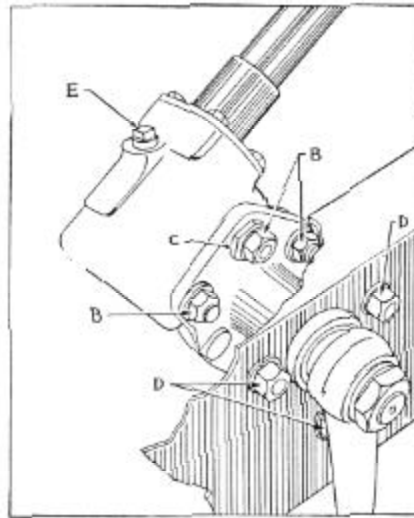

Figure 13
The mesh between the worm and sector of the gear is adjusted by moving the housing cover. To adjust, loosen the four (one not shown) housing cover stud nuts (B), Figure 13, one-quarter turn. With front wheels jacked up and in the straight
The housing should be filled at all times with a good grade of S.A.E. 160 gear oil in summer and S.A.E. 110 gear oil in winter. The lubricant can be injected after removing filler plug (E), Figure 13, and should be done with change of season.